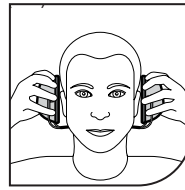

Fig 4
1. Place the cups in position over the ears (Fig 4).